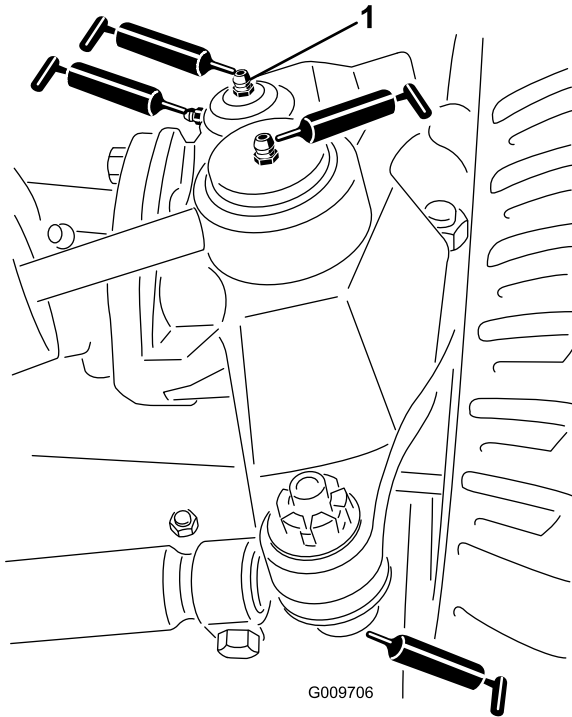

Figure 27
- Steering-cylinder ball joints (2) (Figure 27)
- Tie-rod ball joints (2) (Figure 27)
- King-pin bushings (2) (Figure 27). **The top fitting on the king pin should only be lubricated annually (2 pumps).**